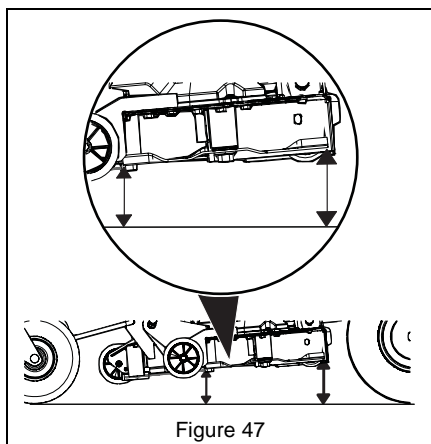

Figure 47
3. On both sides of the unit, measure the distance to the ground at the front and rear tip of the blade. See Figure 47.